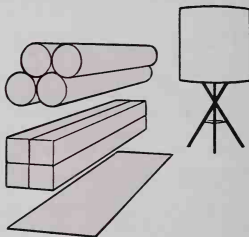

Fig. 2-3. Rods, bars and sheets of metal are used to make up a larger shape or mass.
3. Mass or Solid. The solid shape or outline of an object has dimensions of thickness, width and height. When you look at an object, the mass may be square, round or some other geometric form, Fig. 2-3. You will use rods, bars, cubes and sheets of metal in developing your projects to make up a Mass or Solid shape.